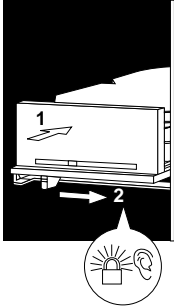

Figure 4-5 Sliding the Drive Into the Slot
- Once the drive is all the way in, push the green lever underneath the drive all the way to the right, as shown in Figure 4-5.